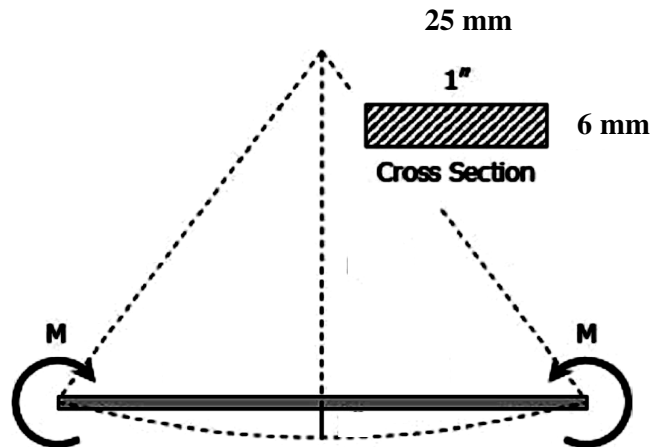

Figure Q1(a)
- a) A flat steel bar shown on figure Q1(a) below is 25 mm wide by 6 mm thick and 1 m long. The bar is bent by couples applied at the ends so that the midpoint deflection is 25 mm. Compute the stress in the bar and the magnitude of the couples. Take $E = 200 \text{ GN/m}^2$.
- b) Figure Q1(b) shows a rigid bar ABC that forms part of a frame. The bar is pinned at B and attached to the two vertical rods; a steel rod at point A and an aluminum rod at point C. The data of the aluminum and steel bars are as shown on Table Q1(b).